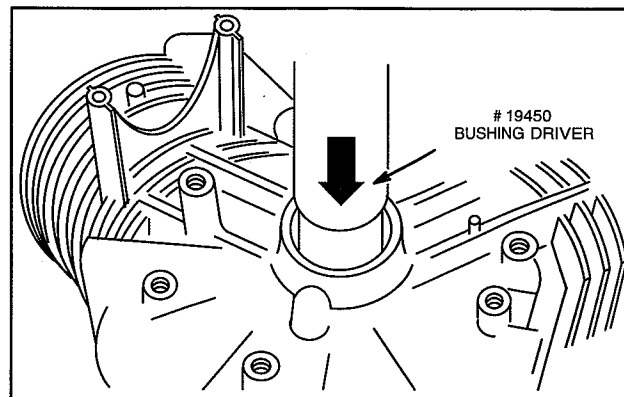

Fig. 7 – Removing/Installing Bearing
1. Place cylinder on cylinder support, Tool #19227 with large opening facing bearing, Fig. 7.